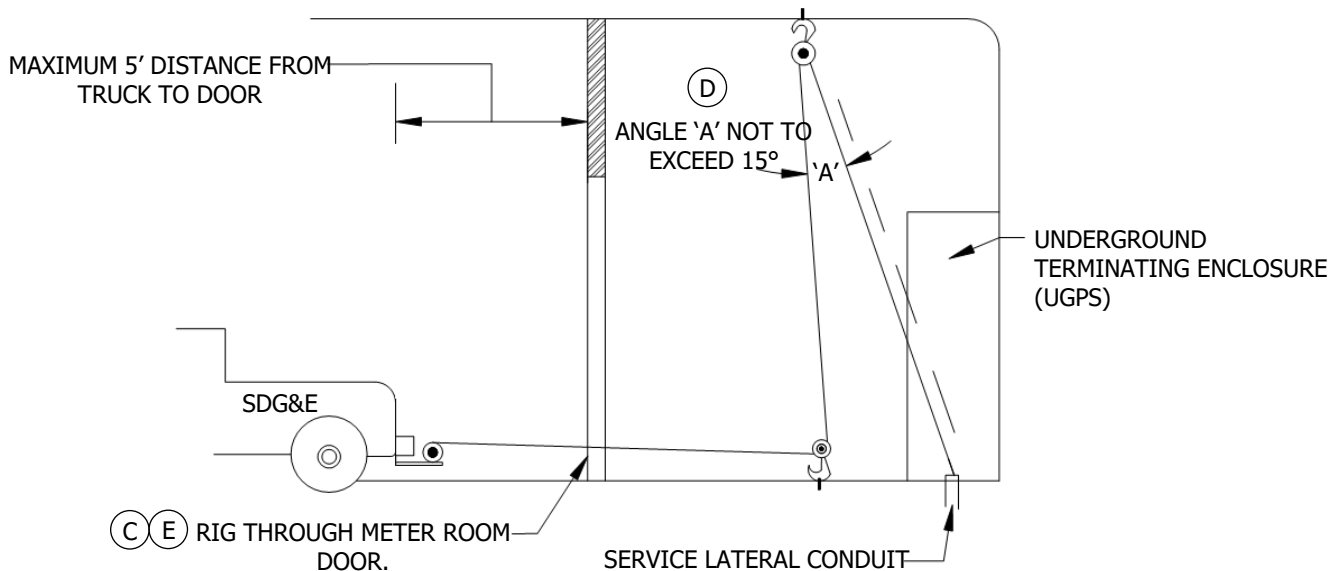

FIGURE 1
- (A) CUSTOMER TO PROVIDE PULLING EYE HOOK STRUCTURALLY IN THE CEILING WITH A LOAD CAPACITY OF 8,000 LBS. LOCATE EYE HOOK IN FRONT OF, AND CENTERED TO, THE UGPS. CUSTOMER TO SUBMIT THE STRUCTURAL ENGINEER'S APPROVED DRAWING(S) TO SDG&E'S (UTILITY) PROJECT PLANNER PRIOR TO INSTALLATION OF THE EYE HOOK AND COIL INSERT (REFERENCE NOTE B). COORDINATE THE INSTALLATION WITH THE UTILITY'S INSPECTOR.
- (B) CUSTOMER TO PROVIDE A 1" X 4-1/2" DAYTON/RICHMOND FLARED THIN SLAB COIL INSERT (F-63), OR EQUIVALENT, WITH A SAFE WORKING LOAD TENSION OF 4,750 LBS. AND A LOAD OF 8,000 LBS. WHEN USED IN COMBINATION WITH THE COIL INSERT SPECIFIED ABOVE. INSTALL THE COIL INSERT AND SWIVEL LIFTING PLATE DIRECTLY BELOW THE PULLING EYE HOOK SPECIFIED IN NOTE A. COORDINATE THE INSTALLATION WITH THE UTILITY'S INSPECTOR. TO ENSURE SAFETY, INSTALLATION OF THE COIL INSERT AND SWIVEL LIFTING PLATE SHALL BE IN COMPLIANCE WITH THE MANUFACTURER'S INSTALLATION INSTRUCTIONS.
- (C) THE RIGGING PATH THROUGH THE METER ROOM DOOR IS TO BE DIRECTLY IN LINE FROM TRUCK ACCESS TO THE FLOOR-MOUNTED COIL INSERT AND SWIVEL LIFTING PLATE THROUGH THE METER ROOM DOOR.
- (D) THE PULLING EYE HOOK SPECIFIED IN NOTE A, AND THE FLOOR-MOUNTED COIL INSERT AND SWIVEL LIFTING PLATE SPECIFIED IN NOTE B ARE TO BE POSITIONED AT A DISTANCE OUT FROM THE UGPS SUCH THAT ANGLE 'A' (SEE FIGURE 1) IS NOT GREATER THAN 15 DEGREES. THE RIGGING PATH THROUGH THE FRONT OF THE UGPS IS TO BE UNOBSTRUCTED, AND THE RIGGING IS TO HAVE NO CONTACT WITH THE TOP, BOTTOM, OR SIDES OF THE PULL SECTION OPENING. MAXIMUM ALLOWABLE HEIGHT OF TOP PULLING EYE IS 14'.
- (E) CUSTOMER TO PROVIDE THE UTILITY 24-HOUR DIRECT ACCESS TO WITHIN 5' OF THE METER ROOM DOOR(S).